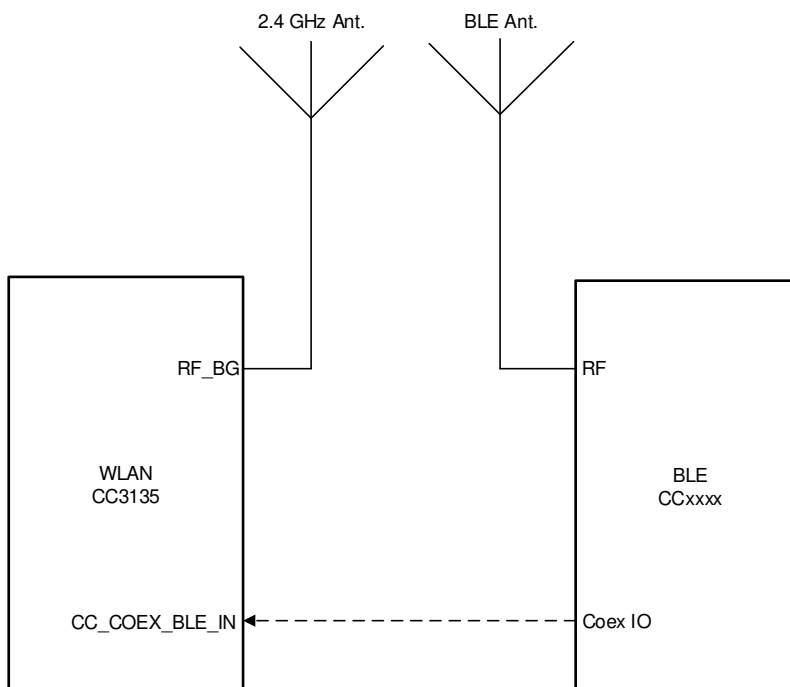

Figure 10-3. Dual-Antenna Coexistence Mode Block Diagram
- 2.4 GHz Wi-Fi Band (see Figure 10-3)
Figure 10-3 shows the dual antenna implementation of a complete Bluetooth® low energy and WLAN coexistence network with the WLAN operating on either a 2.4- or a 5 GHz band. Note in this implementation no Coex switch is required and only a single GPIO from the BLE device to the CC3135 device is required.